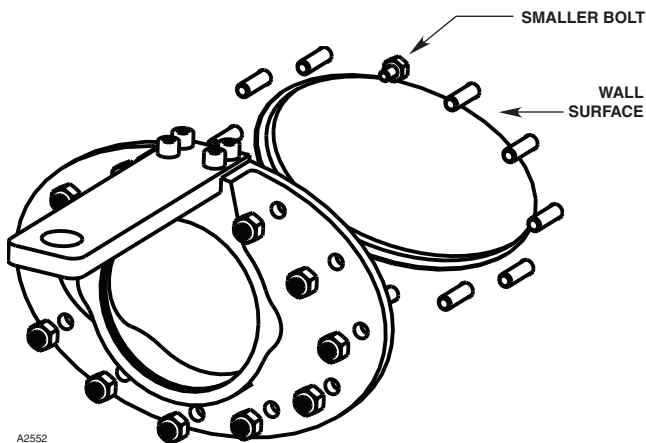

Figure 4—Location of Mounting Plates Relative to Wall
6. Place the other plate over the bolts as shown in Figure 4. Secure with 1/4-20 nuts (11 total) and tighten to 30 in-lbs.